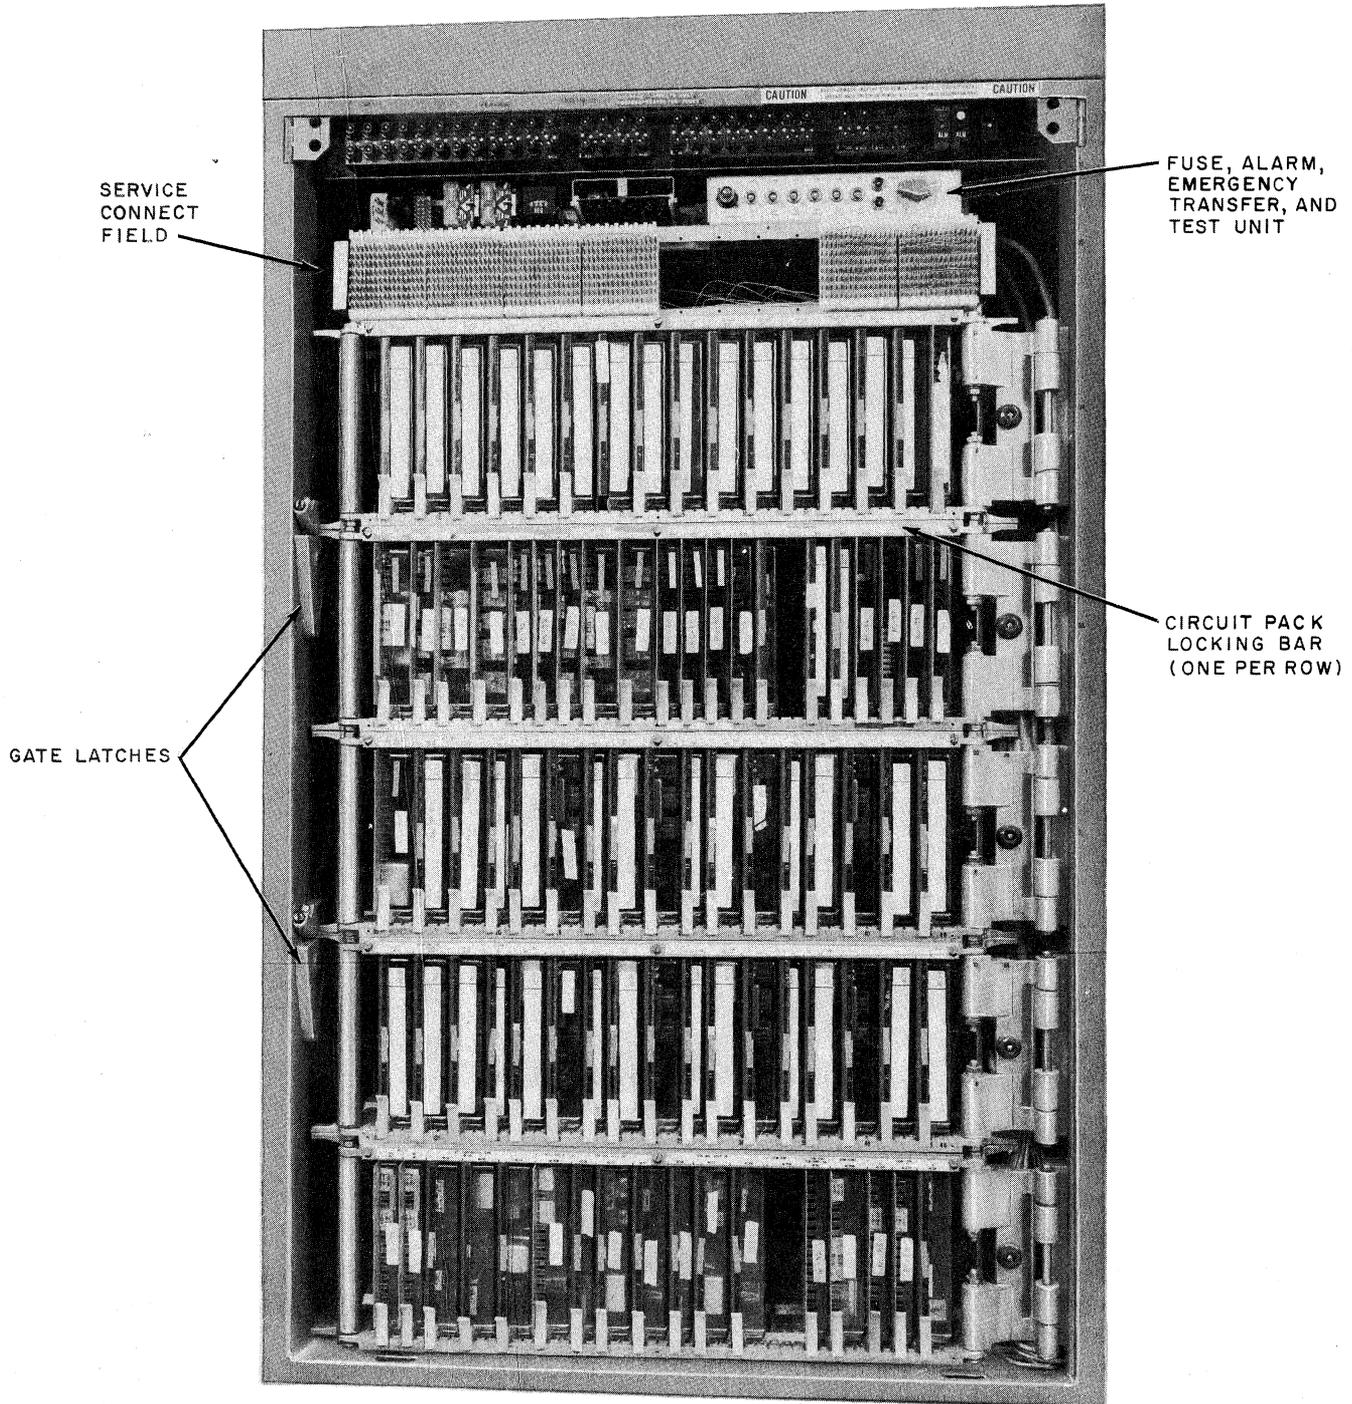

Fig. 3—Typical Gate Assembly
**2.07** Interchange the positions of the two screws in each gate latch assembly of the cabinet being added to the system (Fig. 3).
**2.13** Loosen the three circuit pack locking bar screws at the top of each circuit pack carrier on the gate units of the new cabinet(s) as shown in Fig. 3. Remove and discard the split ring (washer) under each screw. This allows the locking bar to be raised for circuit pack control. The screws should be retightened hand tight only.